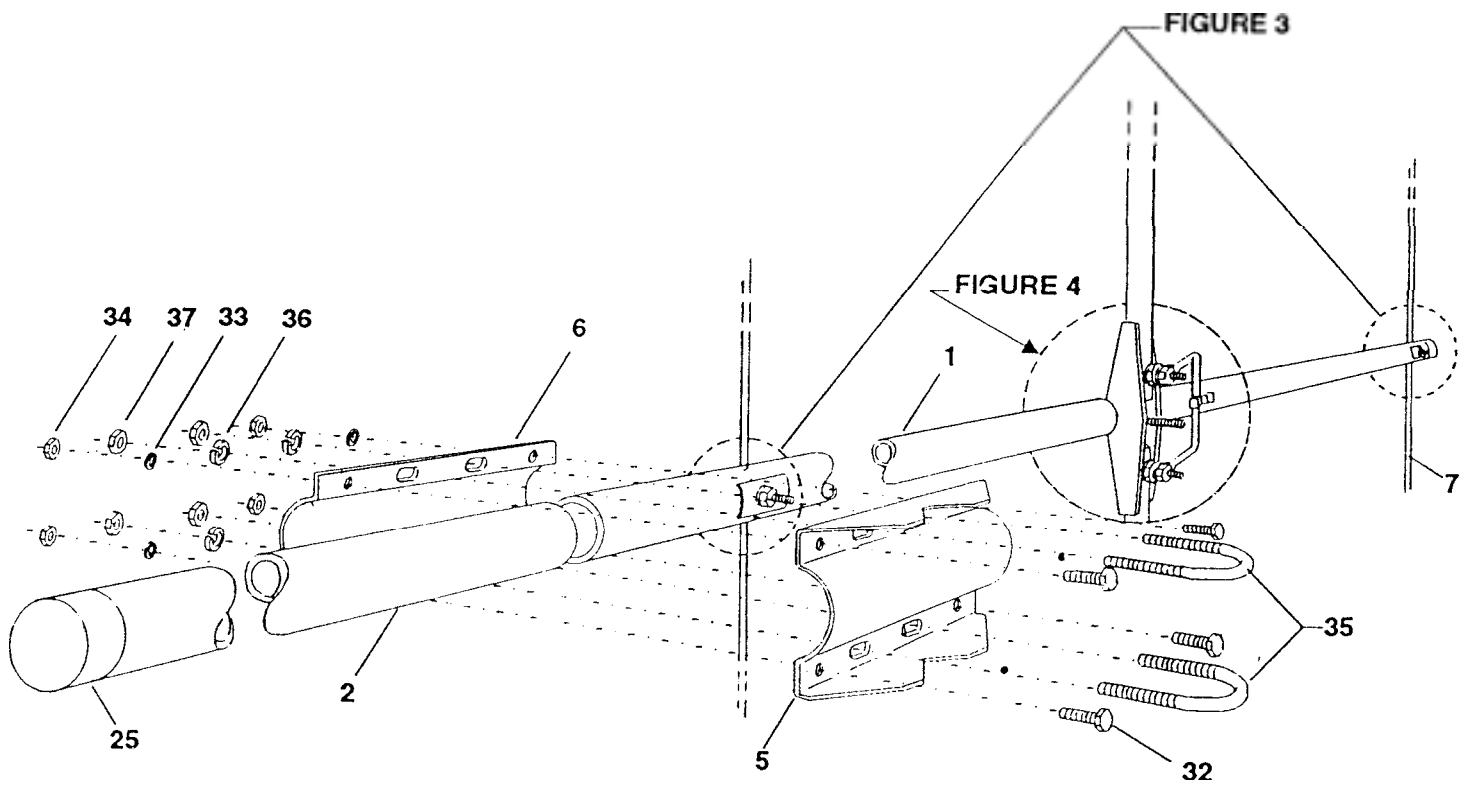

Figure 2
Place the boom-to-mast clamp on the boom as shown in Figure 2. The front and rear boom sections should meet in the middle of the boom-to-mast clamp. Use the 1/4"-20 x 3/4" bolts in the outside holes. Leave the inside holes for the two (2) U-bolts, which will be used later for mounting the mast. Select either the vertical or horizontal mounting position. Adjust the boom accordingly before tightening the bolts securely.